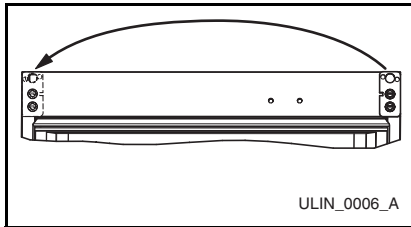

Figure 21
8. With bottom of door facing up, remove pivot plate (two screws), flip over, and remount on opposite side of door (**Figure 21**). **Be sure notch in plate faces center.**